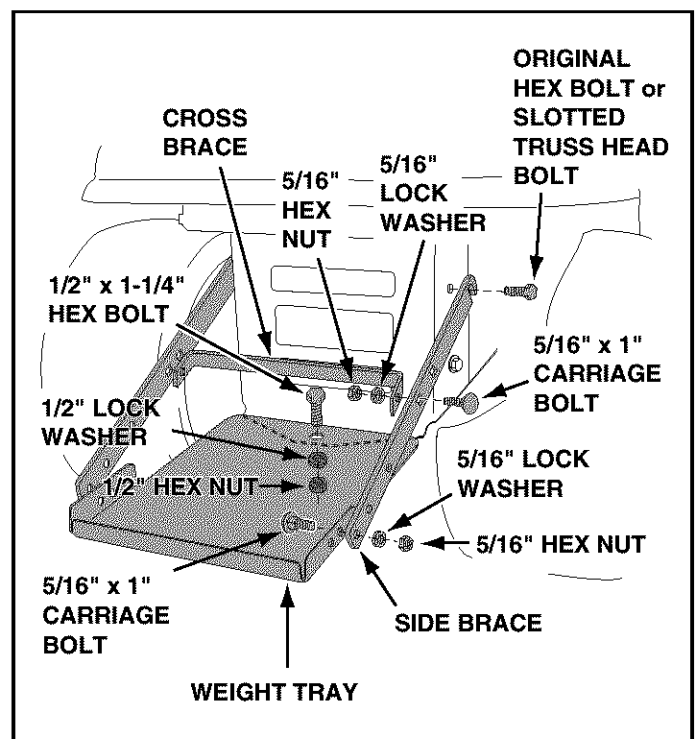

FIGURE 33
- Loosen the top hex bolt on each side of the tractor frame at the rear. Assemble the slotted end of the side braces down onto the loosened bolts. **Do not tighten yet.** See figure 33.
- Place the weight tray on top of the tractor hitch and fasten the side braces to it using two 5/16" x 1" carriage bolts, 5/16" lock washers and 5/16" hex nuts. **Do not tighten yet.** See figure 33.
- Fasten the weight tray to the tractor hitch using a 1/2" x 1-1/4" hex bolt, a 1/2" lock washer and a 1/2" hex nut. **Do not tighten yet.** See figure 33.
- Fasten the cross brace to the side braces using two 5/16" x 1" carriage bolts, 5/16" lock washers and 5/16" hex nuts. See figure 33. **Tighten all loose bolts at this time.**
- Assemble the weight tray to the side braces as instructed in figure 33 on page 16.